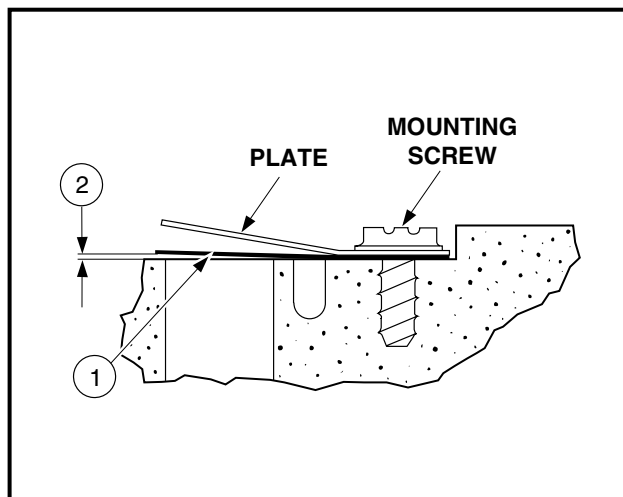

Figure 18-34 Reed Valve
1. Inspect the reed valve (1) for sticking or binding. Replace if necessary (**Figure 18-34, Page 18-18**).
3. Inspect the reed valve (1) seating surface. It must not have any nicks or burrs.
**NOTE:** Place the reed valve on the seat so there is a slight gap (2) 0.008 inch maximum (0.203 mm) between the valve and the seat (**Figure 18-34, Page 18-18**).